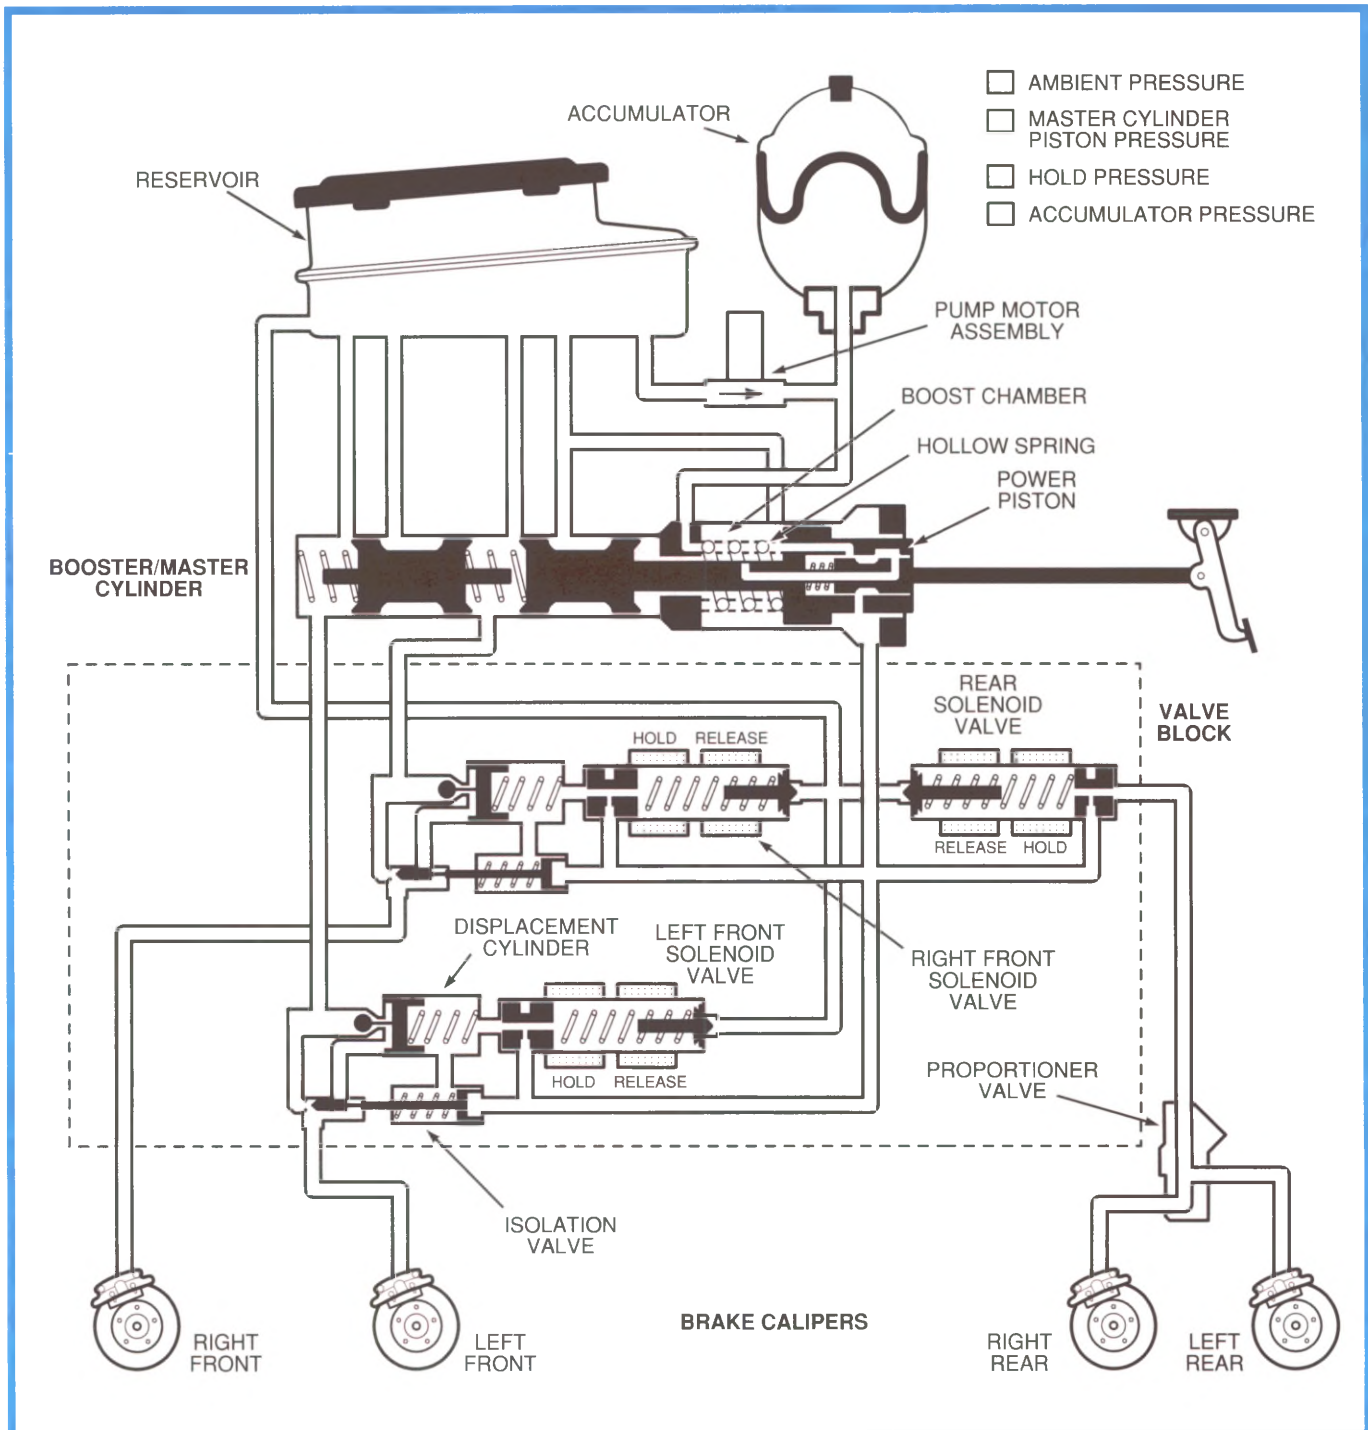

Figure 3-28, Delco Moraine III Hydraulic System (Two Solenoids/Two Valves per Channel)
- Delco Moraine III (Figure 3-28)